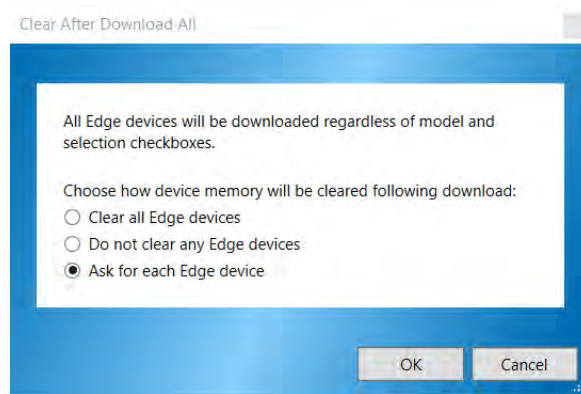

Figure 1-32: Clear After Download All dialog
6. Press the Download button (see **5**). DMS will report the sessions loaded and the date of completion with the most recent on top (see **6**). If using “Selected Edge Devices Only” mode, a dialog will appear after each device is downloaded asking if you would like to clear the instrument memory (see **7**). If using “All Edge Devices” mode, the Clear After Download All dialog will appear before downloading begins (Figure 1-32). This dialog gives you three options for how to clear device memory following downloads.